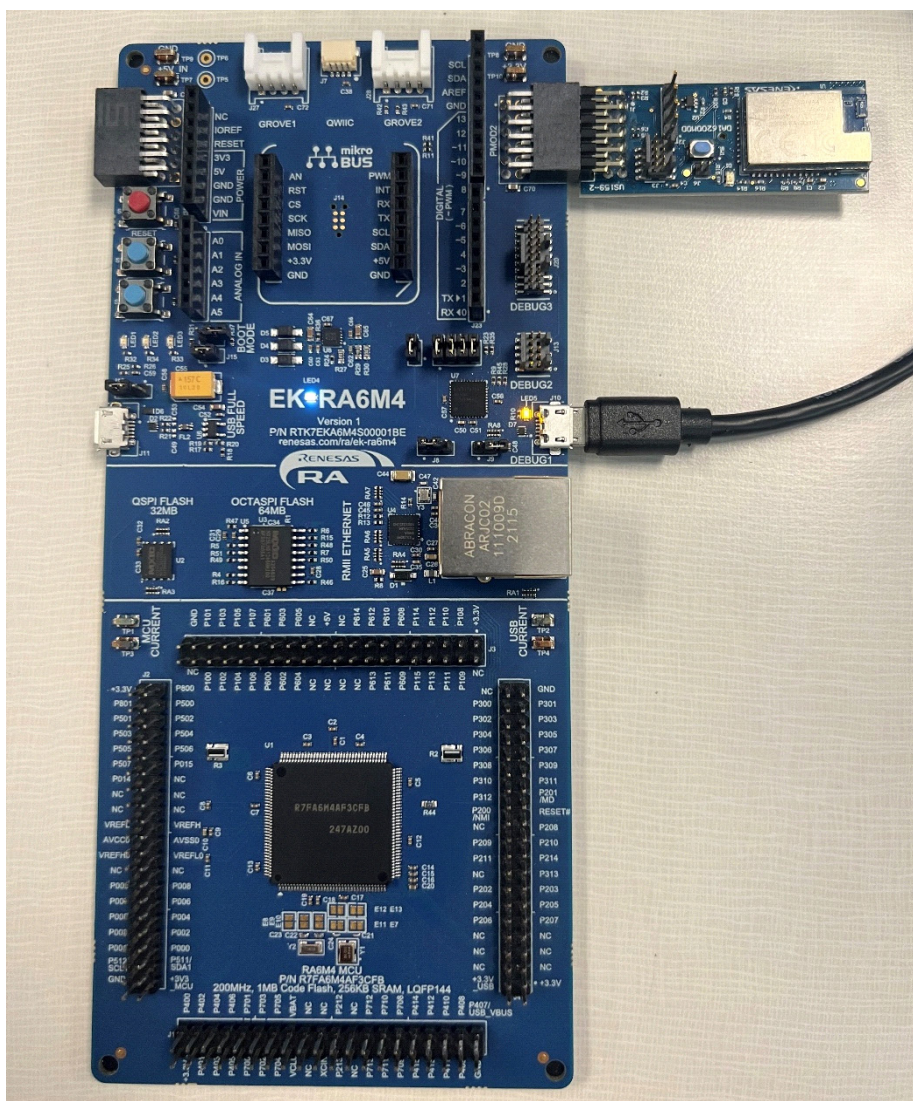

Figure 1. EK-RA6M4 Connections
- When completed, the LEDs should be illuminated as in Figure 1, and the board should appear as follows: